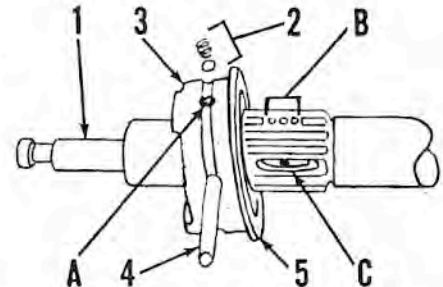

Fig. WB90—Assembling shift mechanism to propeller shaft. Refer to text.
To assemble the propeller shaft, refer to Fig. WB90. Install the retaining ring (5) on one end of clutch dog (3) and assemble to propeller shaft, making sure the detent hole (A) is aligned with detents (B) in shaft splines. Insert the shift shaft (1) and align the pin hole with slotted hole (C) in propeller shaft. Align the cross pin hole in clutch dog and insert cross pin (4) through